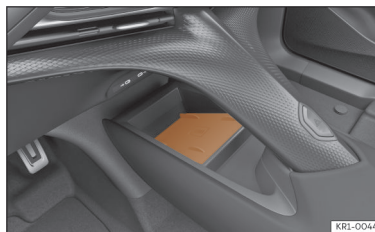

Fig. 164 On the centre console: pad for the mobile phone connection.
- Place your mobile device in the middle of the pad with the screen facing up >>> **Fig. 164**, >>> .